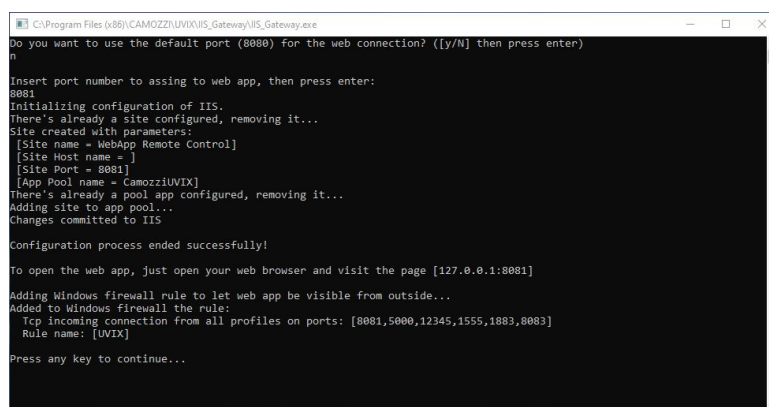

Figure 4.21: WebApp Port Configuration Completion
11. Wait for the configuration to finish, and press any key, as shown in figure 4.21.